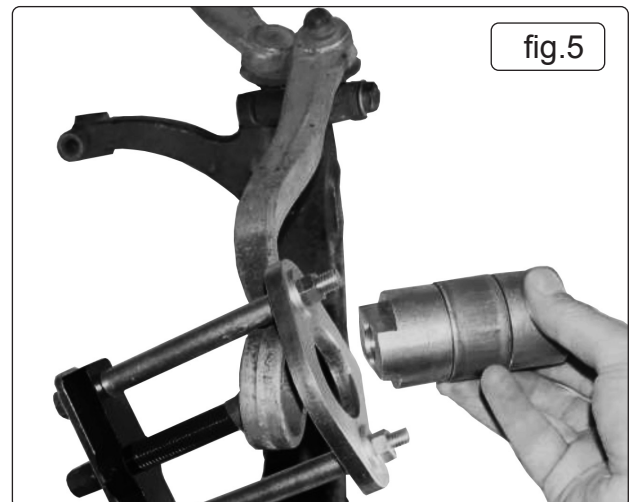

fig. 5
- 5.1.8. Keep rotating force screw until bush has been removed, fig. 5.